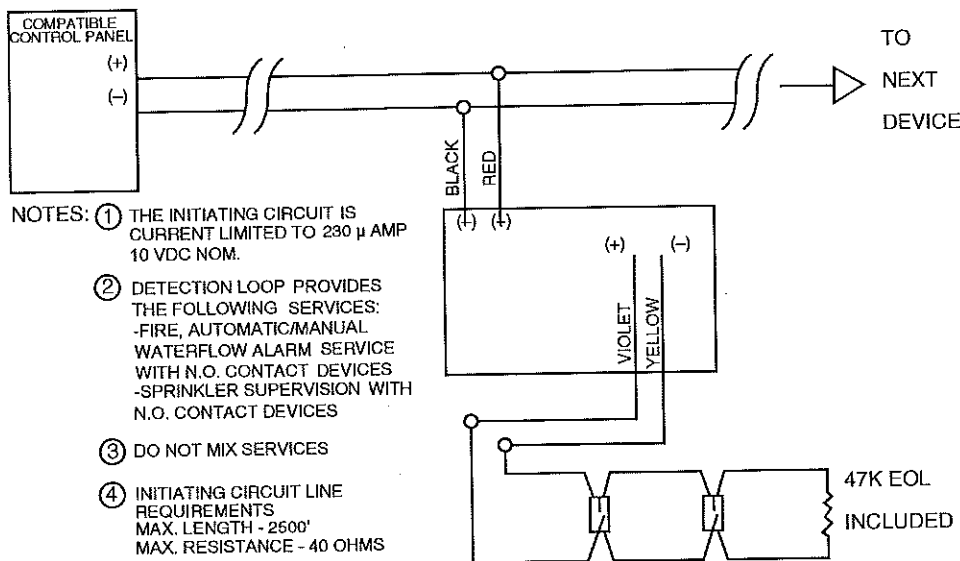

Figure 2
1. Install module wiring in accordance with the job drawings and wiring diagram as appropriate (Figure 2).